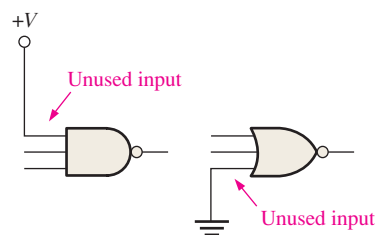

FIGURE 15-24 Handling unused CMOS inputs.
5. All unused inputs should be connected to the supply voltage or ground as indicated in Figure 15-24. If left open, an input can acquire electrostatic charge and “float” to unpredicted levels.